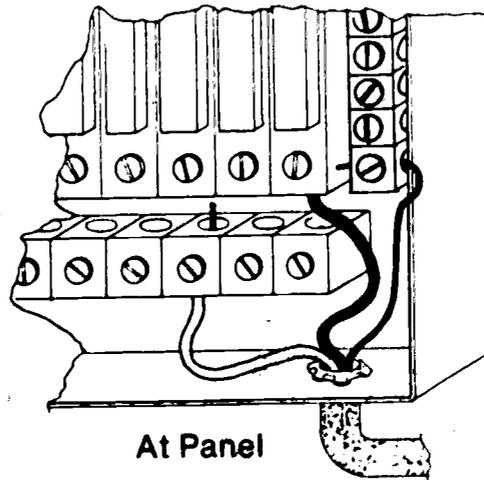

FIGURE 4
- M. Make up panel (Figure 4)
E. Run cable (Figure 4)